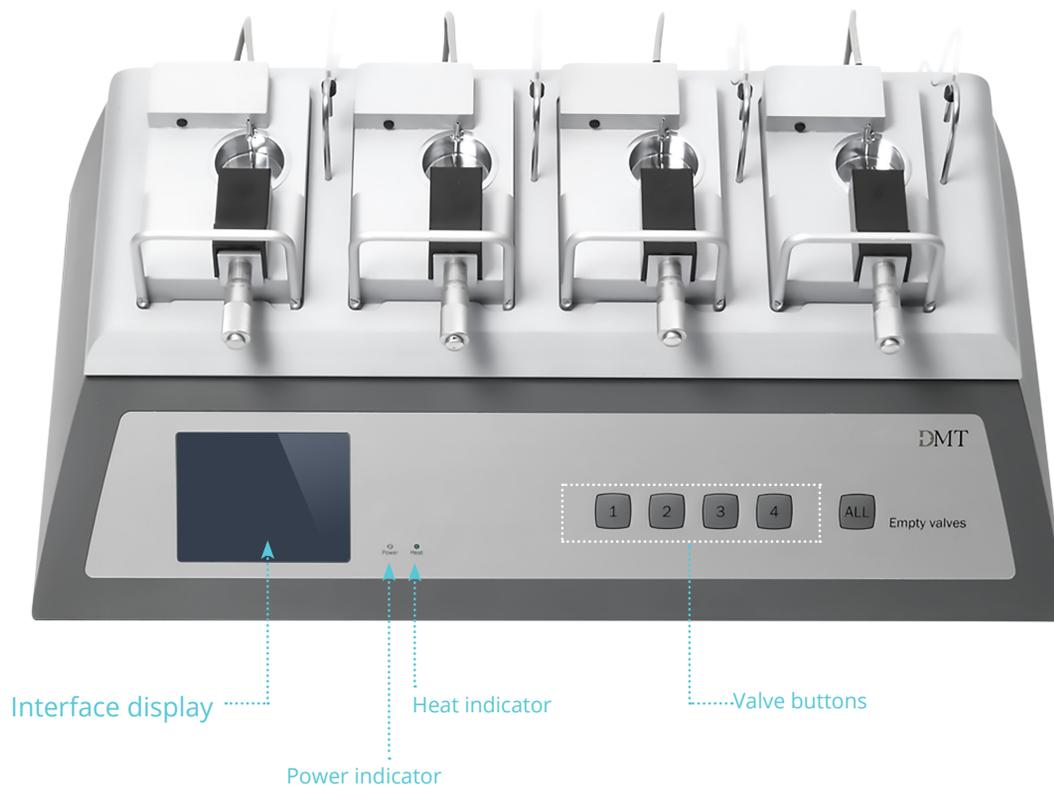
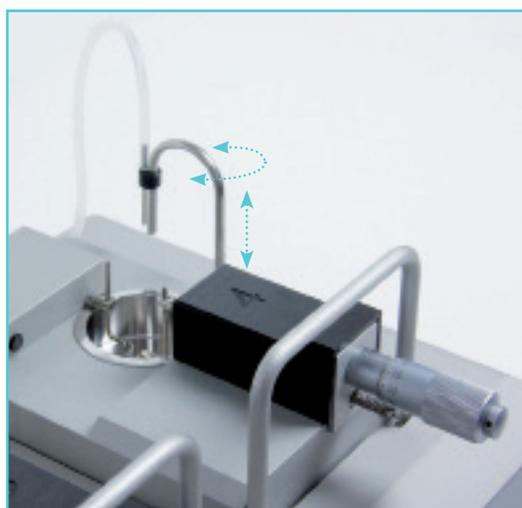

Figure 1.1 Interface front panel with 720MO chambers
Figure 2.2 Oxygen supply and suction connection
2. **Oxygen Supply:** Connect the gas supply (95% O₂, 5% CO₂ or 21% O₂, 5% CO₂, balance N₂) with tubing running from the gas supply to the gas inlet on the back of the Interface. Oxygen is supplied to the chambers by tubing attached to the black stainless steel oxygen pipe. The oxygen and vacuum tubing need to be inserted into the chamber in order to aerate the heated buffer and emptying the chambers respectively. Needle valves on the back of the interface can be adjusted to regulate the amount of bubbling that occurs. Turning the regulator clockwise increases the bubbling while turning it counter-clockwise decreases the bubbling. Each regulator has a lock device attached that can be used when the desired bubbling is achieved (see “Figure 2.2 Oxygen supply and suction connection” on page 13).
3. **Vacuum Connection:** The system has a built-in drainage system with separate valves that allows each chamber to be emptied individually. After connecting the vacuum source to the vacuum pipe at the back of the Interface, the vacuum pipes need to be inserted into the chambers in order for this feature to work properly. The pipes are inserted into the chamber by gently pulling up on the curved part of the pipe, turning it 90° counter clockwise and gently lowering it into the chamber (as illustrated in “Figure 2.2 below). A chamber can then be emptied by pressing the corresponding numbered button. Pressing the “all” button will empty all the chambers at the same time (see “valve buttons” in “Figure 1.1 Interface front panel with 720MO chambers” on page 10).